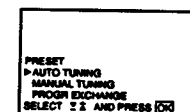

Fig. 7
- 2 Select "PRESET" with Δ or ∇ and press OK. (See Fig. 7.)